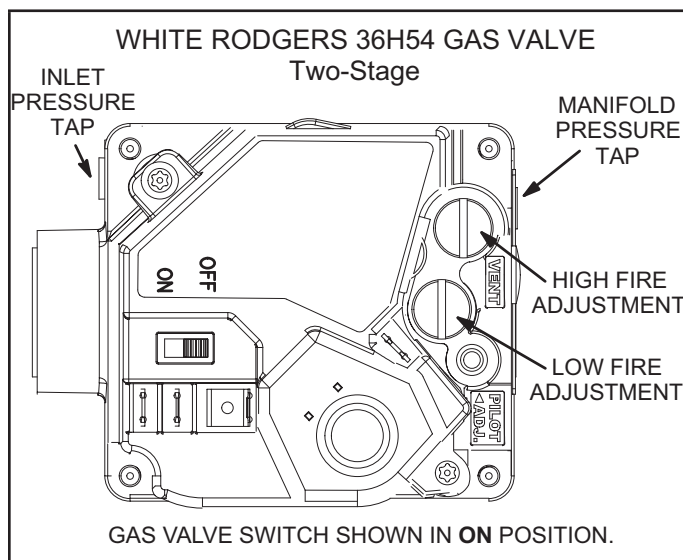
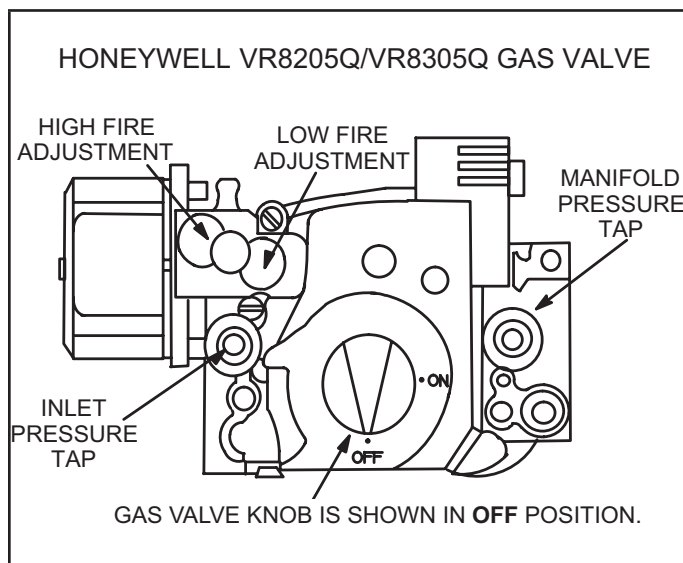

FIGURE 26
FIGURE 27
Gas Valve Operation for Honeywell VR8205Q/VR8305Q and White Rodgers 36H54 (FIGURE 26 and FIGURE 27).
- 5 - Turn gas valve switch to **OFF**. See FIGURE 26. On Honeywell VR8305Q gas valves, turn the knob on the gas valve clockwise to **OFF**. Do not force. See figure 27.
- 6 - Wait five (5) minutes to clear out any gas. If you then smell gas, **STOP!** Immediately call your gas supplier from a neighbor's phone. Follow the gas supplier's instructions. If you do not smell gas, go to the next step.
- 7 - Turn gas valve switch to **ON**. See FIGURE 26. On Honeywell VR8305Q gas valves, turn the knob on the gas valve counterclockwise to **ON**. Do not force. See FIGURE 27.